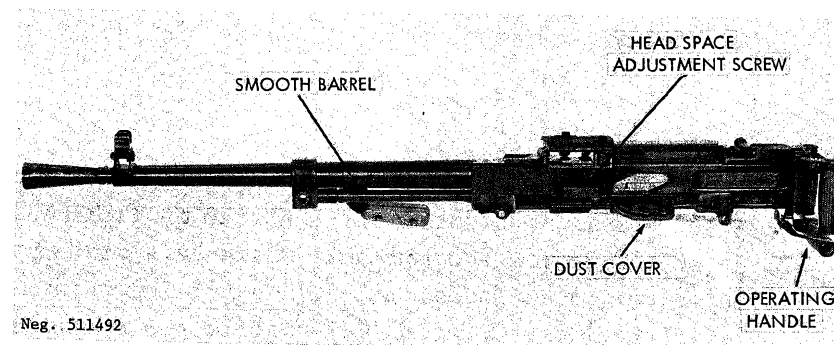
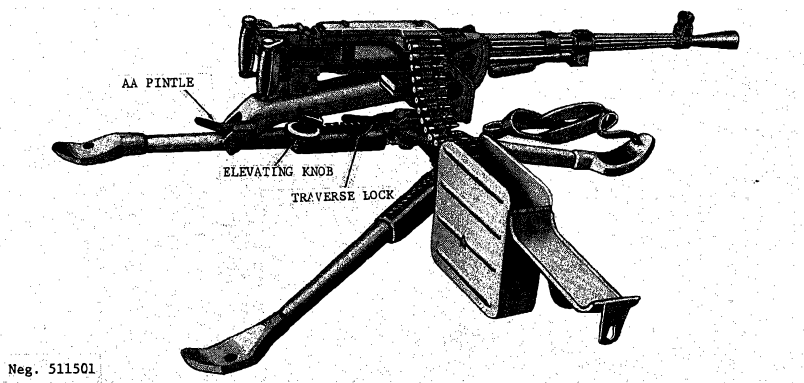
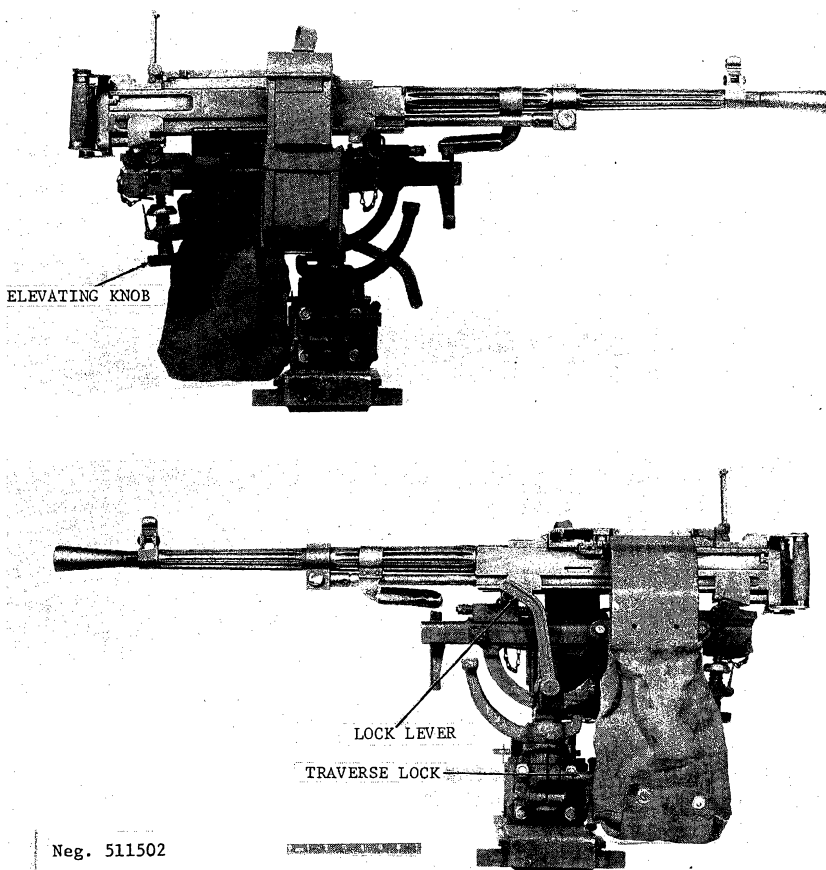

Figure 193. SG-43M heavy machinegun.
Figure 202. SGM Sidorenko-Malinovski tripod.
Figure 203. Early SGM on vehicular mount.
SG-43M: The SG-43 with SGMB type barrel lock and dust covers (fig 193).
a. There are a number of mounts available for the Goryunov machineguns. These include the wheeled Model 1943 (fig 193) and Degtyarev (fig 195) mounts, the Sidorenko-Malinovski tripod mount (fig 202), various vehicular mounts (fig 203), and the PRC Type 70 (fig 204) dual purpose tripod. There are two methods of joining the guns to the mounts. The SG-43, SG-43M, early SGM, and SGMT and PRC Type 53 guns use traverse pins; late SGM, the SGMB and PRC Type 57 models use spring-loaded clamps to hold the gun to the mount.